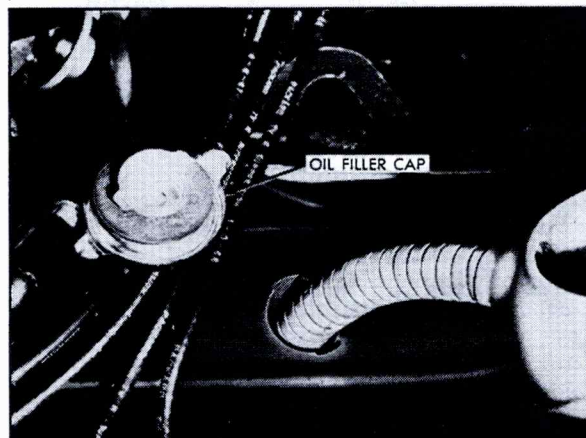

Fig. 0-8 Adding Engine Oil
b. Adding Engine Oil (Fig. 0-8)
Engine oil is added by removing the oil filler cap on the right rocker arm cover, Fig. 0-8.